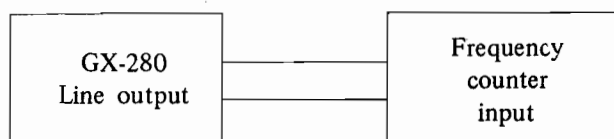

Fig. 1
As shown in Fig. 1, connect a Frequency Counter to the Line Output of Model GX-280. Playback a 1,000 Hz pre-recorded test tape. Take a Frequency Counter reading at the beginning, middle, and end of tape winding during playback. The maximum value of these respective readings will represent tape speed deviation.
- 1) Connect a Frequency Counter to the line output terminals as shown in Fig. 1.